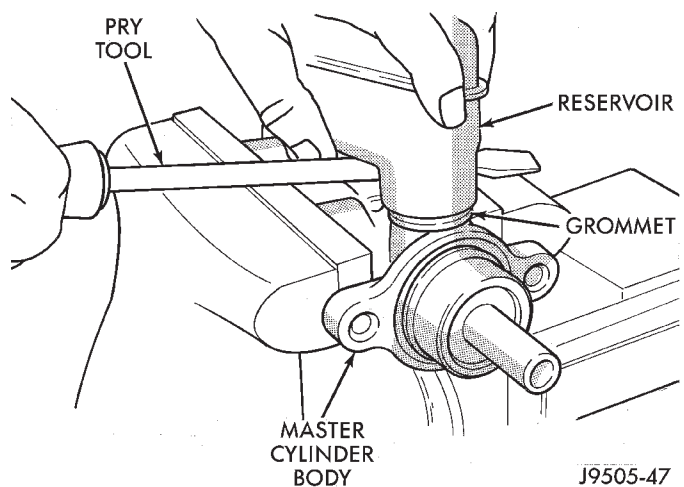

Fig. 42 Loosening Reservoir
(3) Clamp cylinder body in vise with brass protective jaws.
(4) Loosen reservoir from grommets with pry tool (Fig. 42).